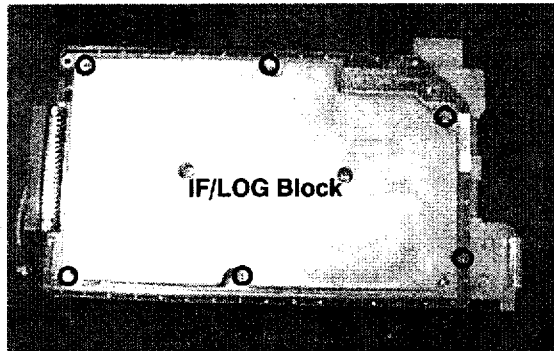

Figure 5-8 Locations of Screws
4. Separate IF block and LOG Block, removing screws as shown in Figure 5-8.